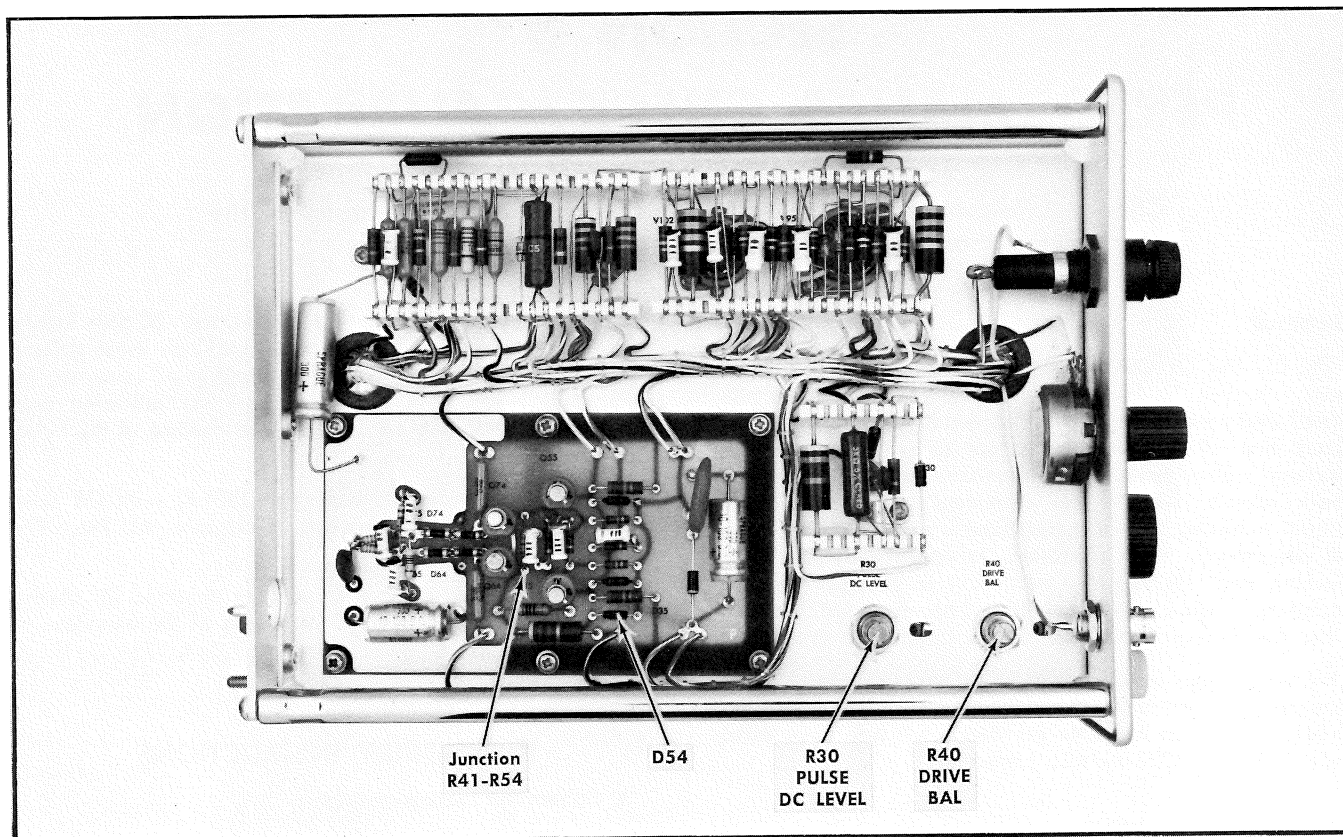

Fig. 5-1. Left side of the Calibration Fixture, showing location of adjustments and test point.
a. Set the ohmmeter to the $\times 1$ scale. With the Calibration Fixture disconnected from the indicator oscilloscope, check the in-circuit resistance across D54 for a low resistance (approximately 5 to 15 Ω) in one direction and infinite resistance in the other direction. **IMPORTANT:** Connect the ohmmeter only as long as required to make the measurement. Continuous application could damage the diode because of meter current exceeding the diode rating. See Fig. 5-1 for D54 location.
d. Connect the voltmeter (item 6) between ground and the +225 V front-panel jack.